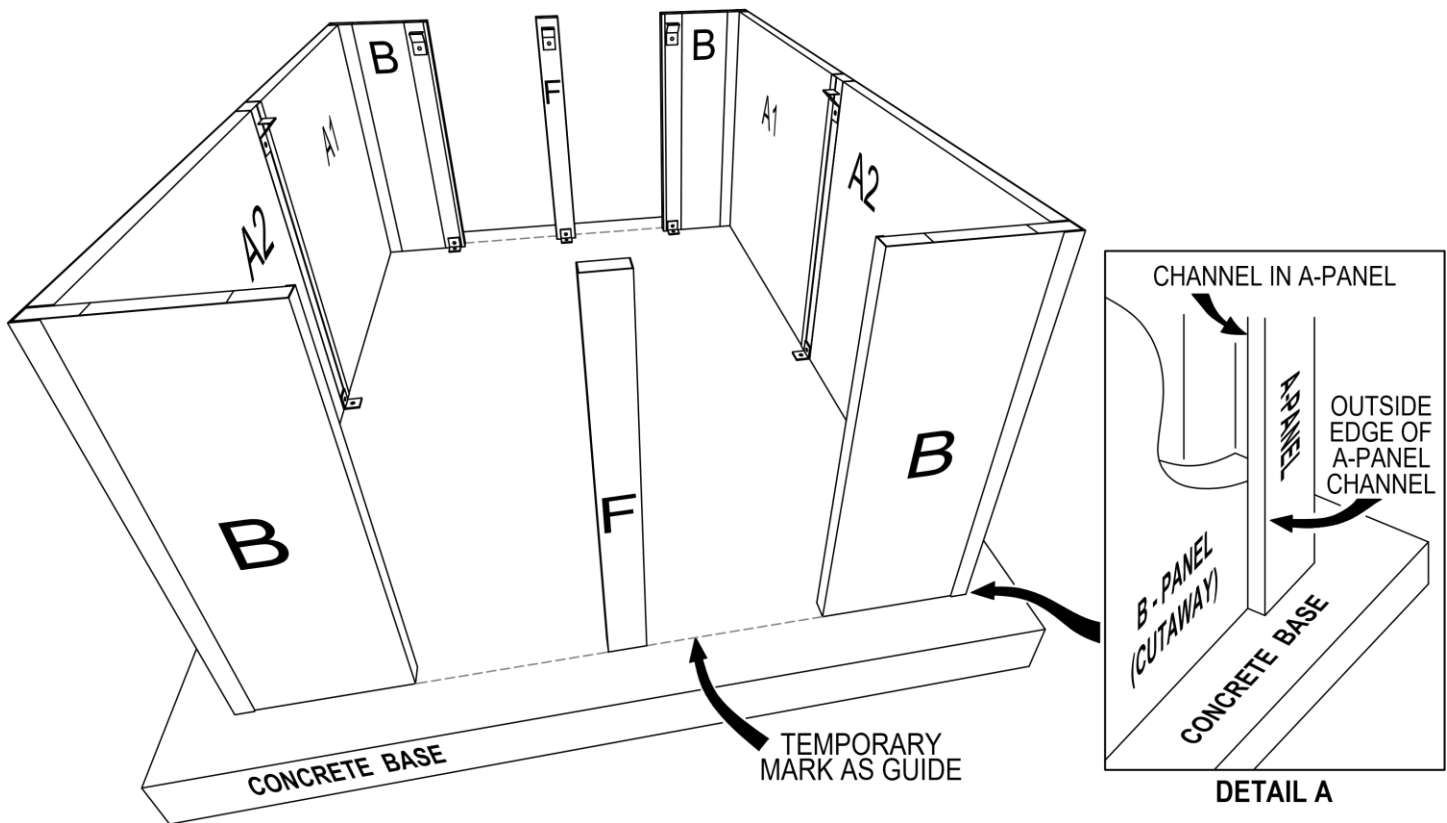

FIG. 1
5. Assemble the "A#-B#" (corner) assemblies through the holes provided oriented as shown in the Enclosure Plan View using Hex Head Screws. (For best results, insert a bead of silicone caulk into the inside bend of the "A#" panel corners.) Set them on the marked concrete base (Fig. 1).